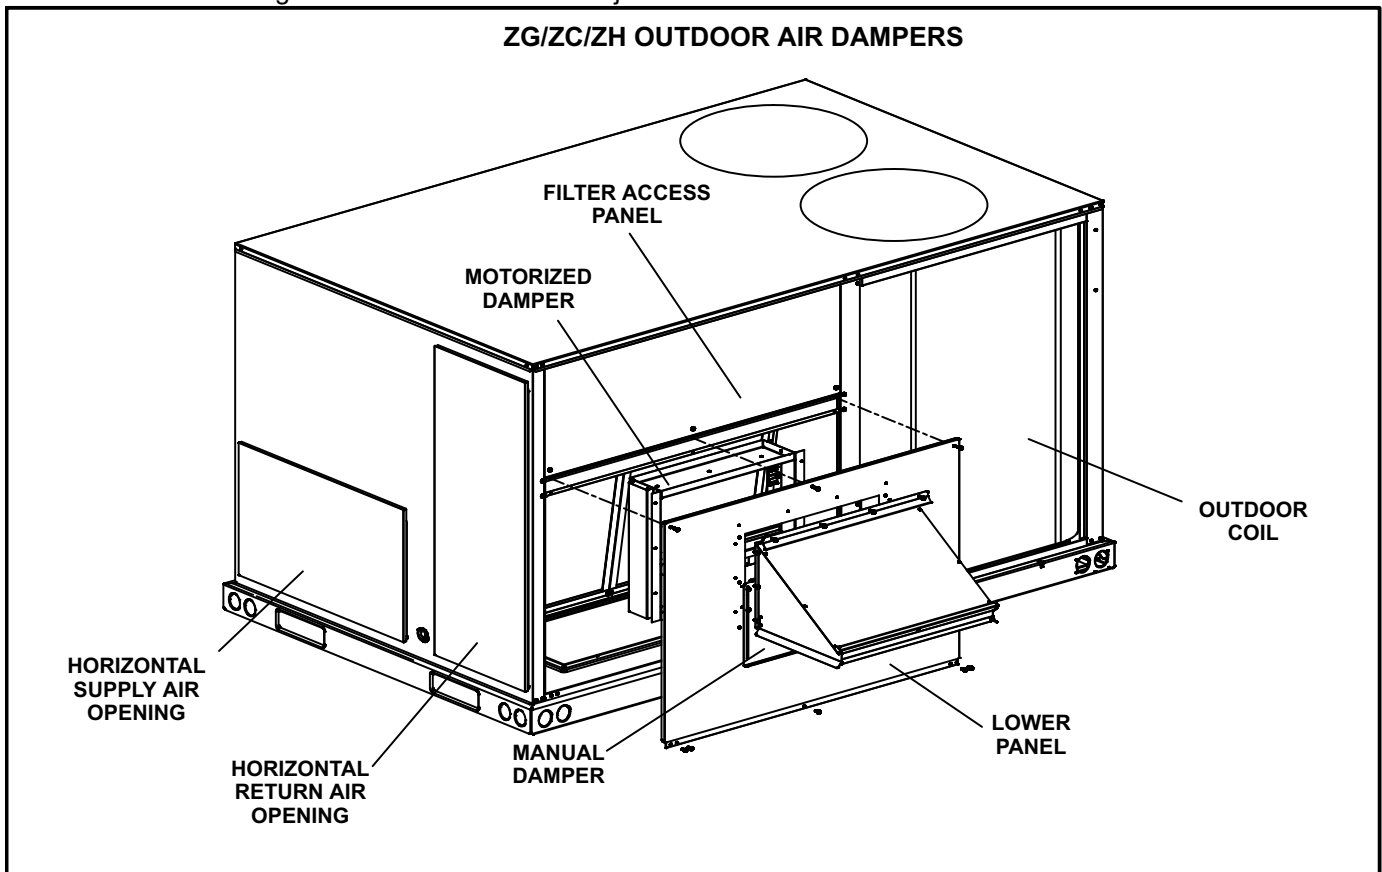

FIGURE 3
- 2- Remove filter and lower access panel on the back of the unit. See figure 3.
- 4- Install the manual damper on the lower panel. See figure 3. Slide the manual damper in the cover panel slots as needed.